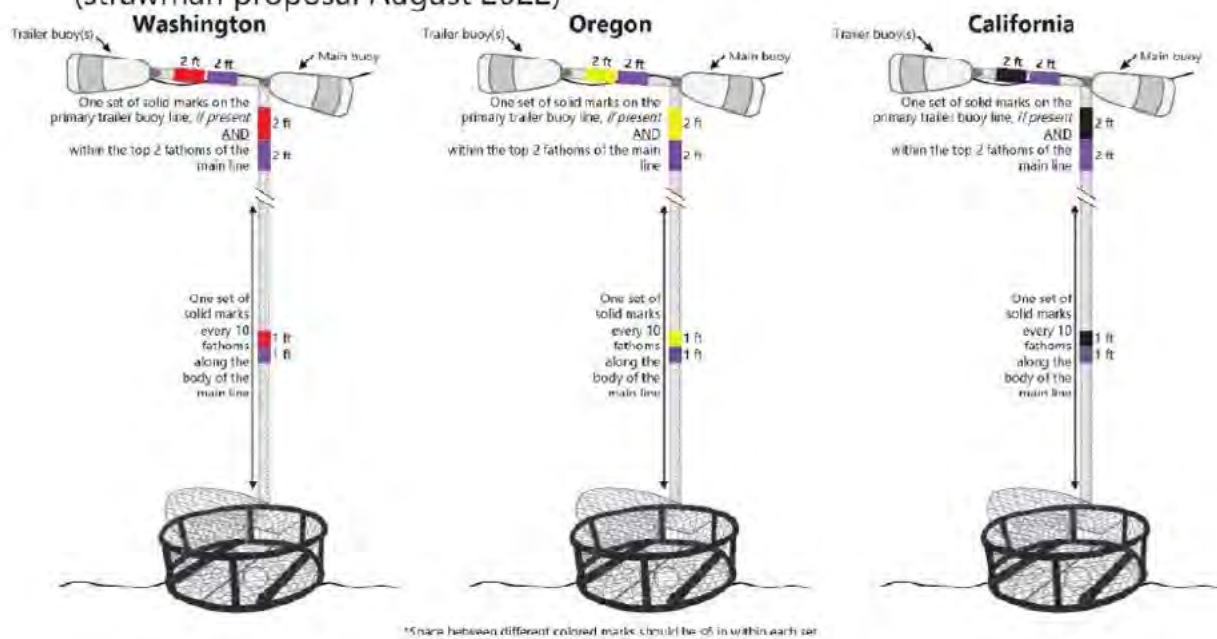

Figure 1. Proposal for line marking in West Coast Dungeness crab fisheries, current as of August 2022.
- Dungeness Crab managers from all three West Coast states have worked together since 2020 to determine goals for a coordinated line marking approach, and in 2022 they developed a coordinated line marking proposal that would require line markings consisting of two different colors (one color to designate Dungeness Crab, the other to designate the state) in 2 foot sections of each color adjacent to one another on both sides of the main buoy, and 1 foot sections of each color adjacent to each other every 10 fathoms between the main buoy and the crab pot (Figure 1).